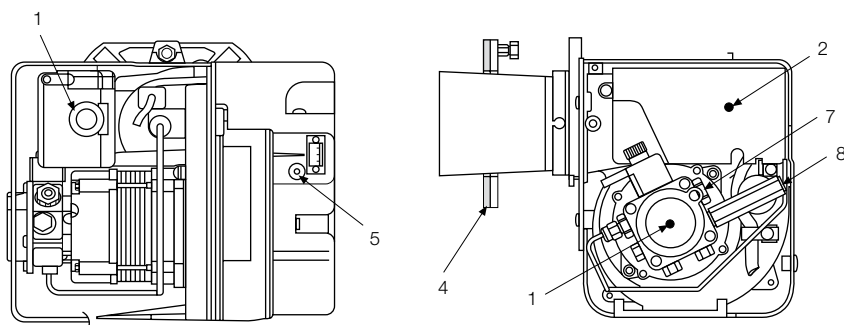

Figure 10-3: RDB burner components
12. Connect a combined vent manifold and pressure gauge to the pressure gauge connection port on the oil pump. See Figure 10-3.
6. Adjust the pressure if necessary - see Figure 10-3.
3. Use the hexagonal key supplied to adjust the burner air damper (see Figure 10-3) as required. Turning the screw anti-clockwise closes the damper and increases  $\text{CO}_2$  level, turning the screw clockwise opens the damper and reduces  $\text{CO}_2$  level.